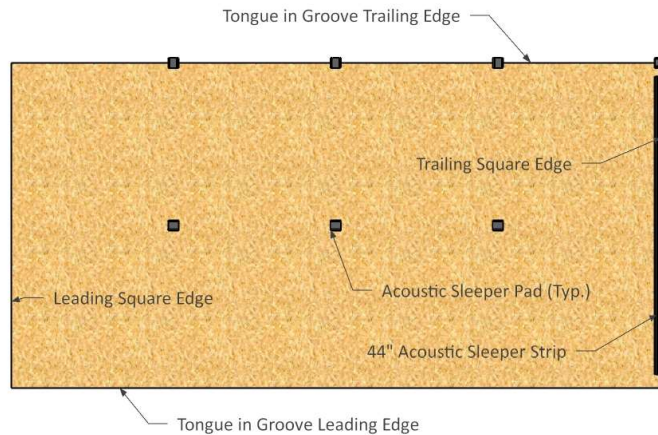

Figure 2: Optional Inverted Plan of Panel with Strip
- Fig. 2: Optional plan for wood framing and concrete has 44" strip at trailing square edge. At concrete, adhesive is required at trailing square edge for leading square edge of subsequent panel.